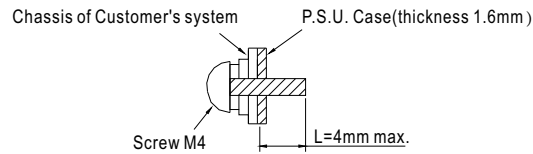

Figure 7-1. Mounting Screw
- ⊙ The length L of the mounting screw must be less than 4mm when measured from the case of the NMP, as shown in Figure 7-1.